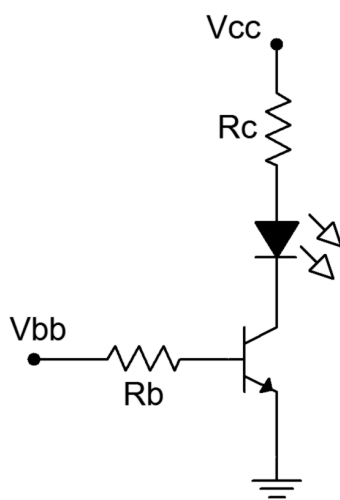

Figure 2
2. Consider the saturating switch of Figure 2 using $V_{cc} = V_{bb} = 5$ volts, $R_b = 4.7 \text{ k}\Omega$ and $R_c = 220 \Omega$. Calculate the base and collector currents and record them in the first row of Table 2 (theory). As the circuit is in saturation, the theoretical V_{CE} is close to zero and may be found on the transistor data sheet via the V_{CE}/I_C saturation graph. Record this value in the first row of Table 2 as well.
3. Build the saturating switch of Figure 2 using $V_{cc} = V_{bb} = 5$ volts, $R_b = 4.7 \text{ k}\Omega$ and $R_c = 220 \Omega$. Measure and record the base and collector currents, and record the collector-emitter voltage in the first row of Table 2 (experimental). Also compute and record the deviations between theory and experimental results.
13. Simulate the circuit of Figure 2 and record the currents and voltage in Table 5.